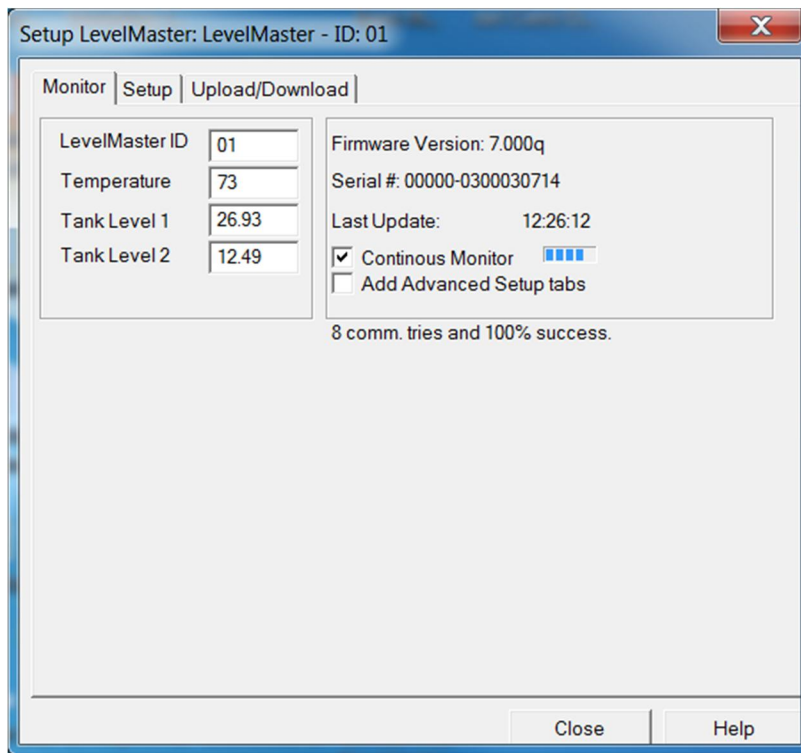

Figure 41: MasterLink Monitor tab
11. Observe the messages displayed on the monitor screen (Figure 41). Verify that the communication is successful. The screen should indicate the number of tries and 100% success. If errors are displayed and communication is not established, verify that the cables and adapters are properly attached and that the correct laptop port and baud rate were selected. If unable to communicate, see the contact information on the back of this manual for support.